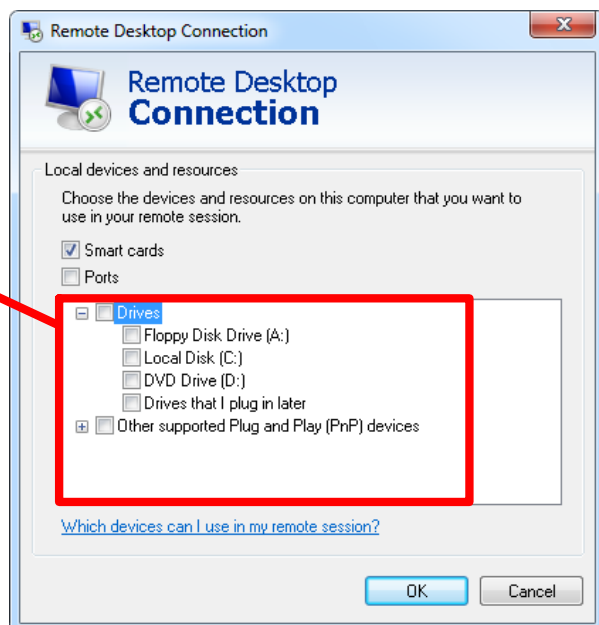

Fig. 7.12 Dialog for enabling additional resources
3. Enable the required drives of your PC for use in the CX22-W (Fig. 7.12).